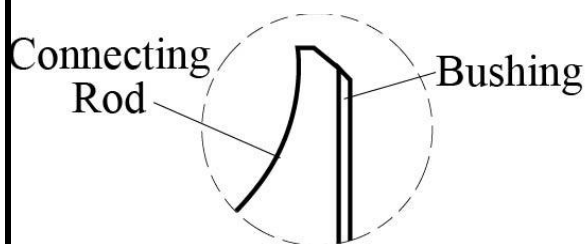

Figure 7
- (1) If the chamfer of the connecting rod and the chamfer of the connecting rod bushing align (Figure 7), this feature is acceptable. Go to Step 2 on the next page.